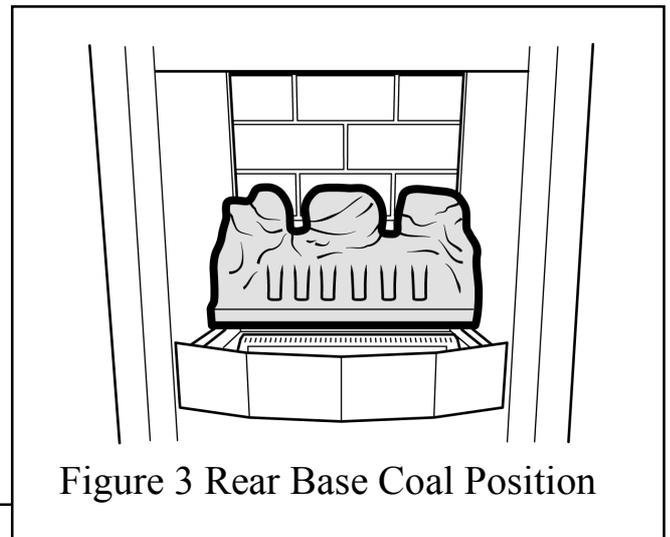

Figure 3 Rear Base Coal Position
1. Place the rear base coal in the firebox. It should rest on the ledges at the sides and back of the firebox and its rear face should touch the rear ceramic wall. See figure 3.